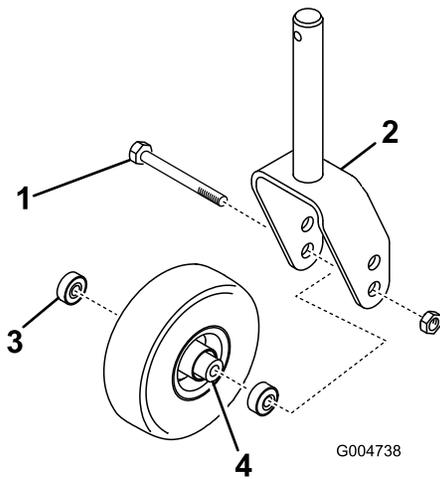
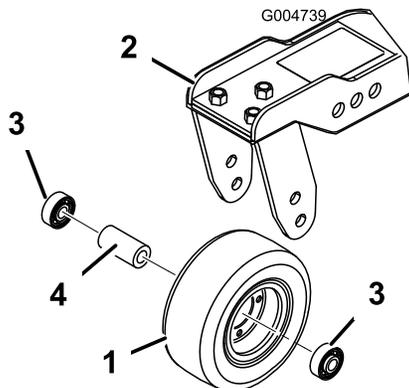

Figure 105
Figure 106
1. Remove the locknut from the bolt holding the castor-wheel assembly between the castor fork (Figure 105) or the castor-pivot arm (Figure 106).
2. Remove the bearing from the wheel hub and allow the bearing spacer to fall out (Figure 105 and Figure 106).